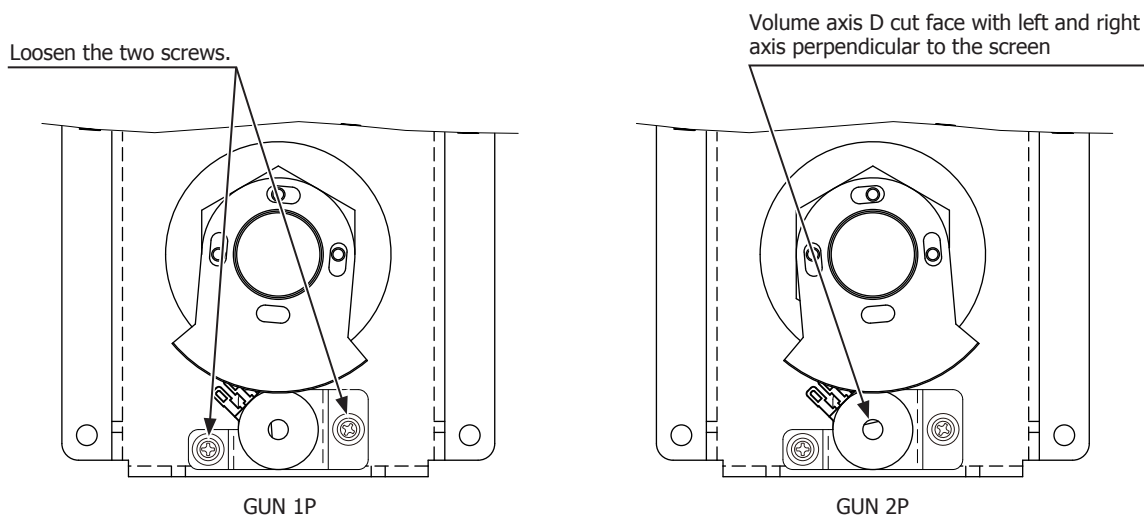

FIG. 11-2b X Axis (Left and Right) Volume
- 15** As in the above adjustment method, with the Control Unit's left and right axis perpendicular to the screen, engage the gears with the D cut face of the volume axis in the direction shown in the diagram and attach it to the Control Unit. (See FIG. 11-2b).